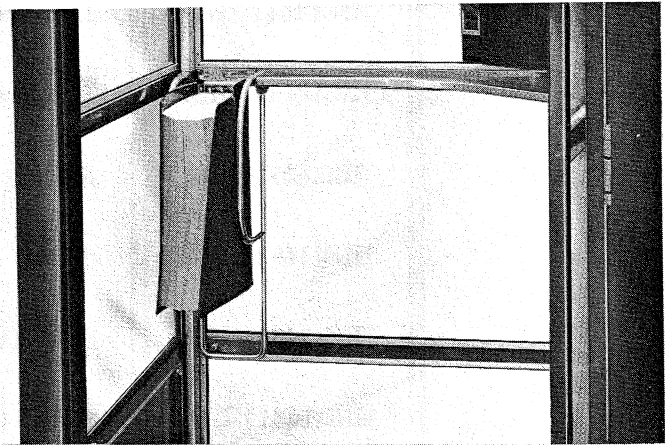

Fig. 2 — KS-16797, List 74 Directory Rack and KS-16797, List 75 Shelf
4.01 Directory facilities in combination of a KS-16797, *List 74 directory rack* and a List 75 shelf are available (Fig.2). The rack is located in the left rear corner of the booth and is fastened to the rear cross rails and shelf. Due to the space considerations inside the booth, the size of the rack is limited to accommodate one large directory binder or any number of thin binders not exceeding 3-1/4 inches. The directory binder is secured in the rack by a hinge pin supported in a bracket which can swivel, thus permitting two degrees of freedom. This mounting allows the directory to be rotated up to reading position and the swivel action enables the user to open the directory wide enough to facilitate reading the printing adjacent to the directory binding. Gravity returns the directory to its stored position.